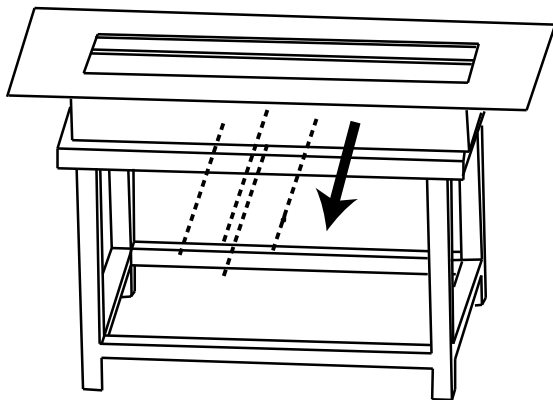

Fig. 3-3
- B. Remove the 4 screws from the bottom of the appliance (**Fig. 3-3**). Do not throw away screws.